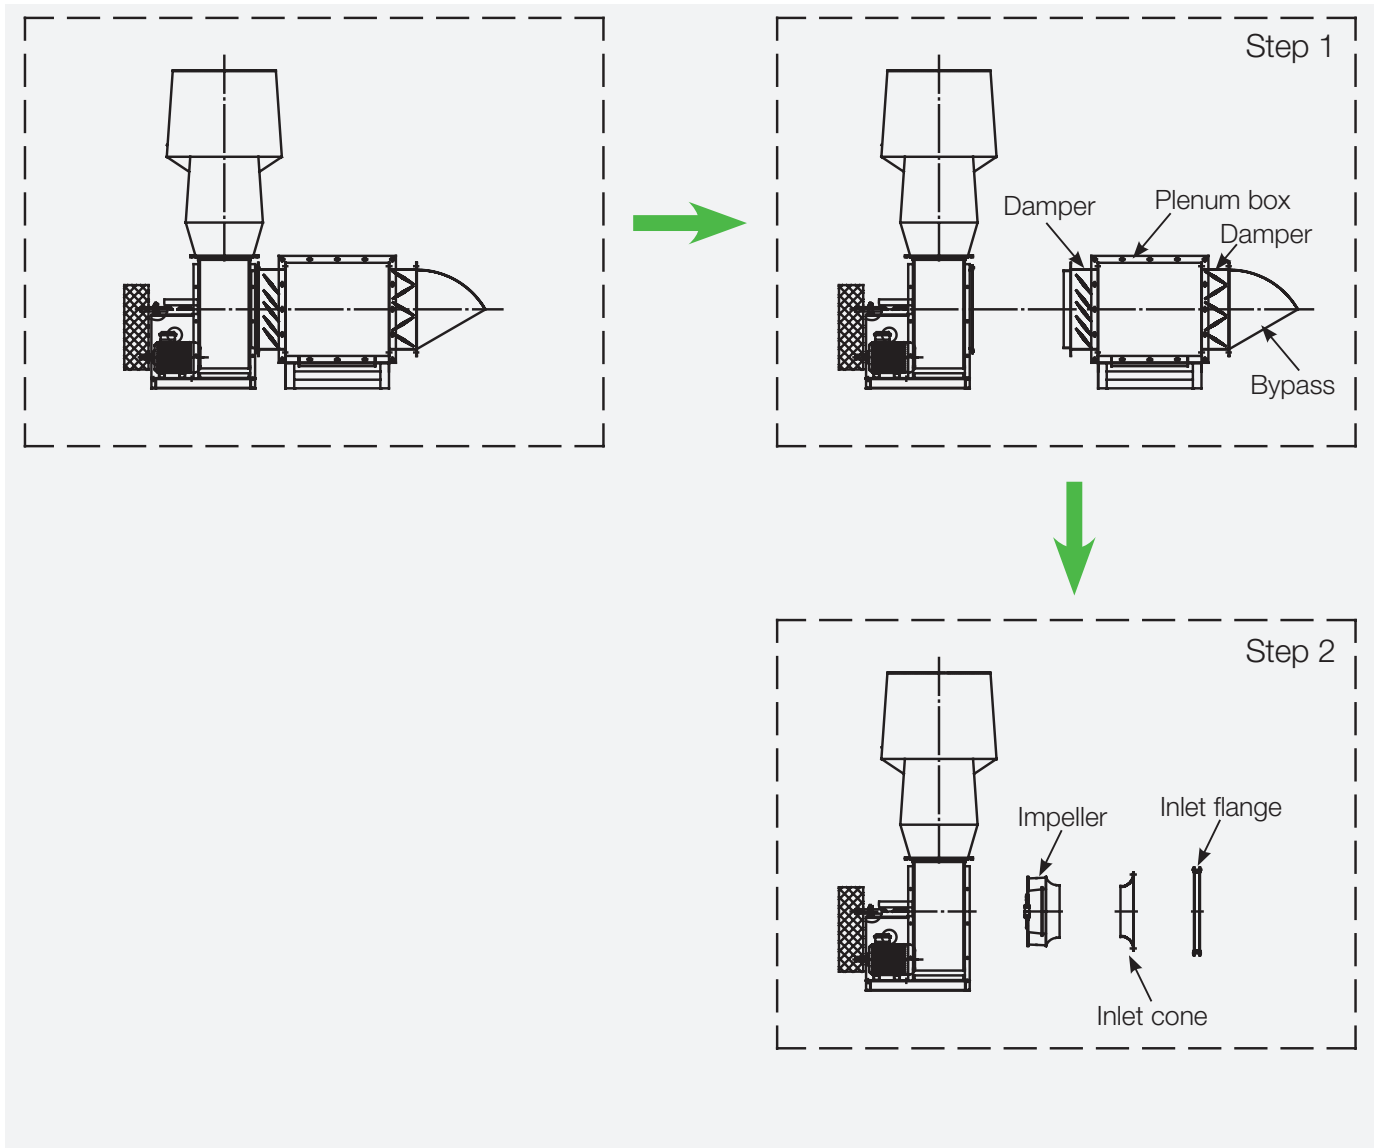

Figure 7) Removing Motor and Impeller - HYE Series
- f) Remove the fan impeller from the motor shaft (refer to Figure 7)